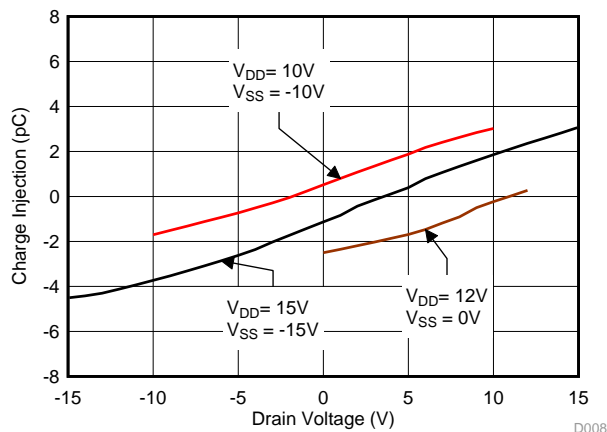

图 33. Charge Injection vs Drain Voltage
The drain (D)-to-source (SA or SB) charge injection becomes important when the device is used as a demultiplexer (demux), where D becomes the input and Sx becomes the output. 图 33 shows the drain-to-source charge injection across the full signal range.